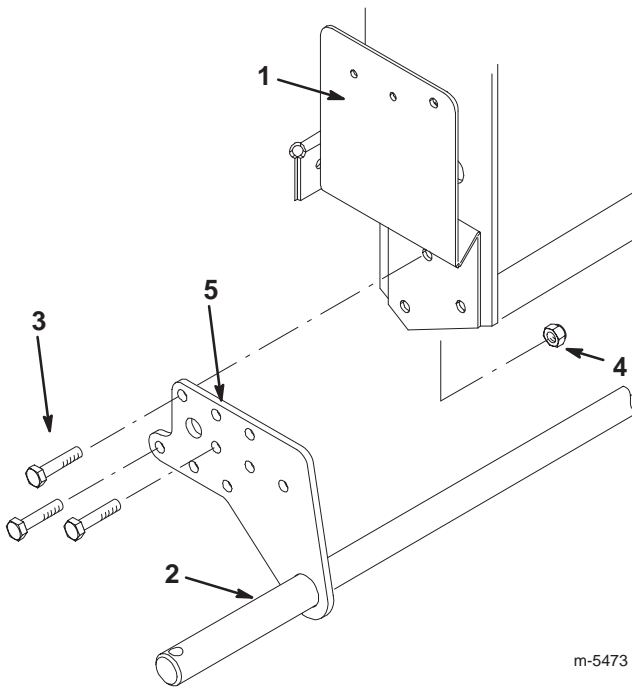

Figure 2
2. Remove the 6 bolts and nuts securing the bottom of the two pulley guards on the sides of the frame (3 bolts and nuts on each side) (Fig. 2).
3. Using the 6 bolts (3/8 x 1-3/8 in.) and locknuts (3/8 in.) supplied with the sulky, install the axle as illustrated in Figure 2.